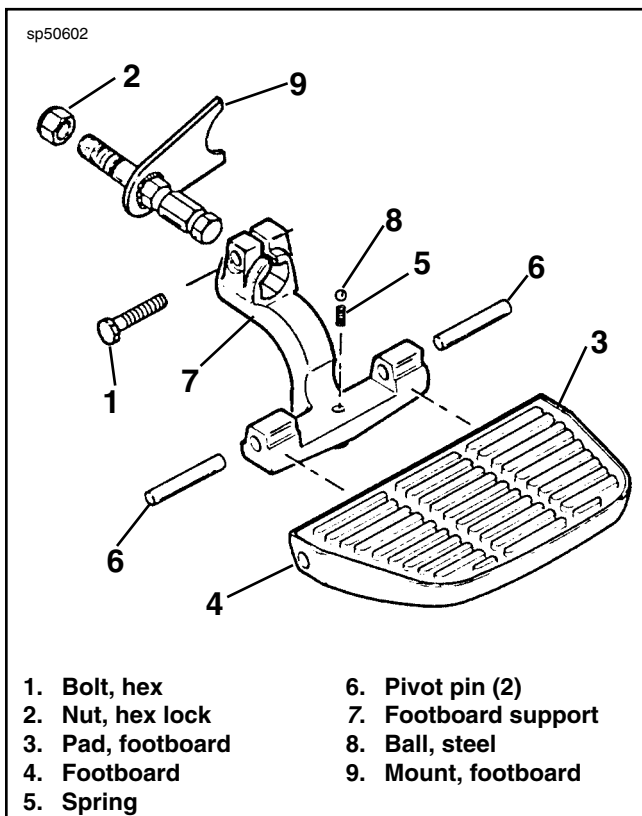
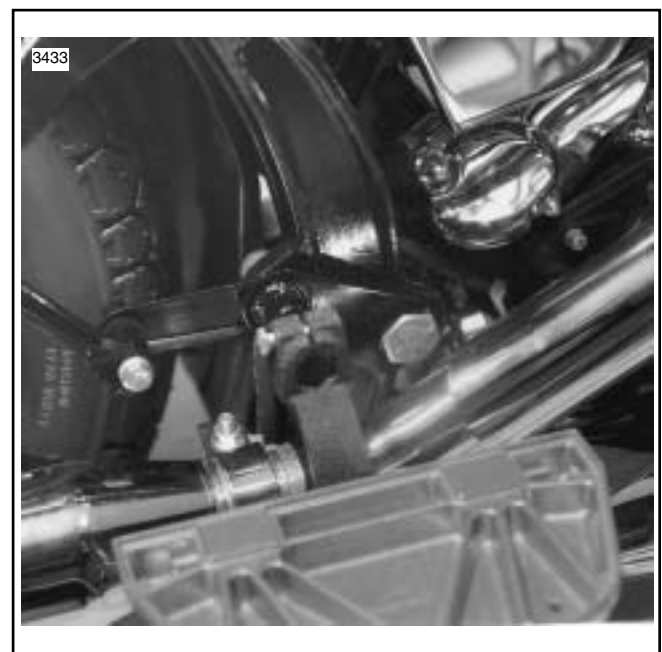

Figure 1. Footboard Assembly
Figure 2. Footboard Mounting
See Figure 1. Scrape off any paint accumulation around the mounting holes or counter bores of footboard support (7). Any paint build-up can interfere with assembly.
2. See Figure 1. Take footboard mount (9) and insert threaded stud through footpeg mounting hole. See Figure 2. Position semi-circular cut-out in plate extending from side of mount around head of pivot bolt.
3. See Figure 1. Thread lock nut (2) on threaded stud of mount (9) and tighten to 33 ft-lbs (44.7 Nm).